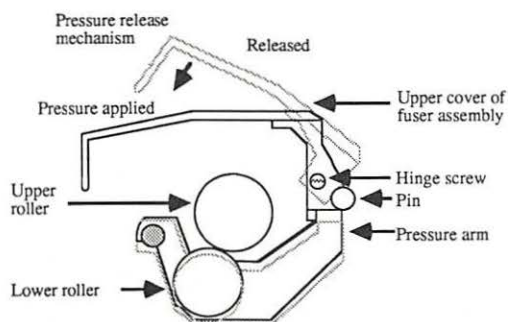

FIGURE 2-34
3. Remove the green cover by removing the two hinge-screws that hold the cover to the fuser (see Figure 2-34).